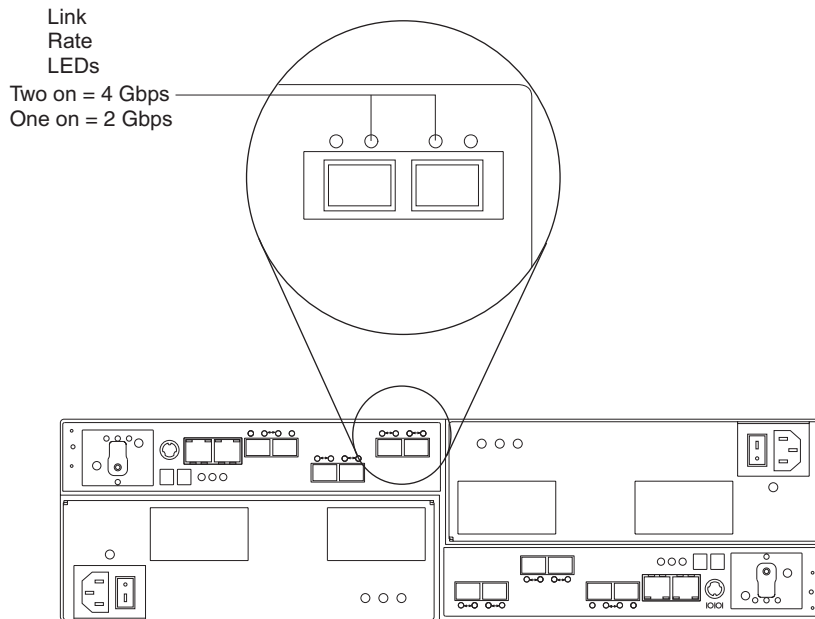

Figure 83. Link rate LEDs
2. Locate the link rate indicator LEDs. Figure 83 on page 142 shows the location of the link rate indicator lights on the back of the storage subsystem.
4. Locate the link rate switch. Figure 83 shows the location of the link rate indicator light on the front of the command module.